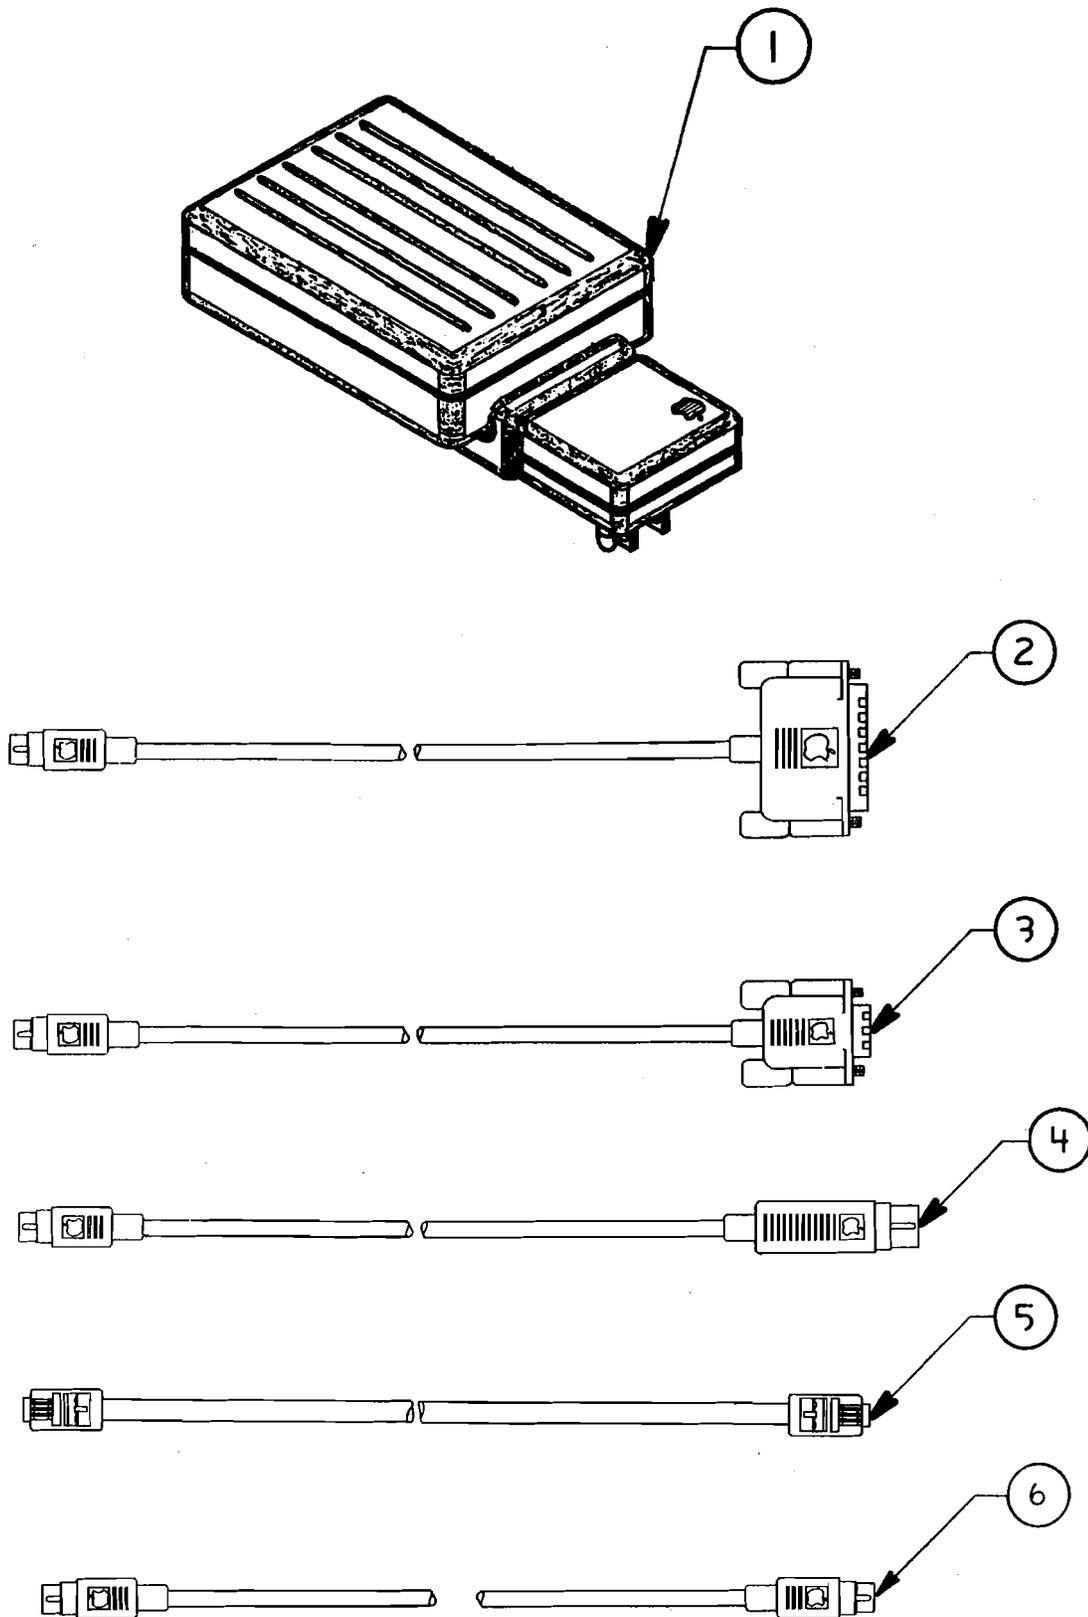

FIGURE 3
- IPL.7 Apple Personal Modem and APM Modem Cables (Figure 3)
(Figure 3)